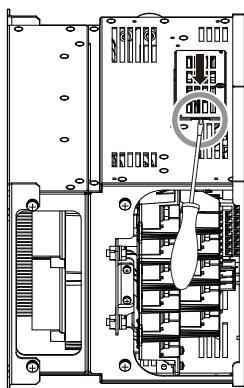

Figure 4.28 Removing the Connector Cover
3. Insert a straight-edge screwdriver into the opening as shown in Figure 4.28, then remove the connector cover by sliding it along as shown in Figure 4.28.